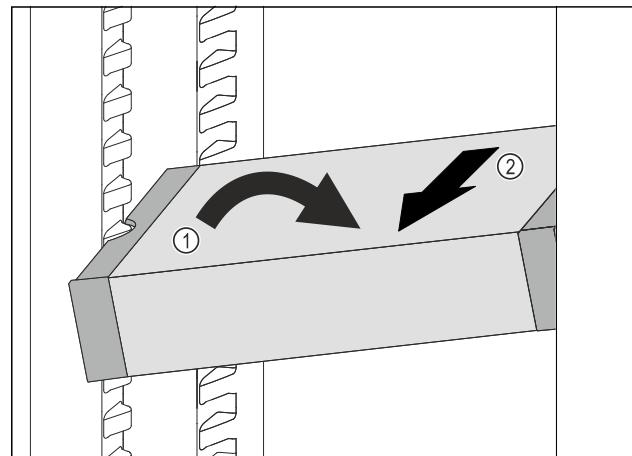

Fig. 137
- ▶ Set VarioSafe in refrigerator compartment at an angle. Fig. 137 (1)
- ▶ Take VarioSafe out to the front. Fig. 137 (2)